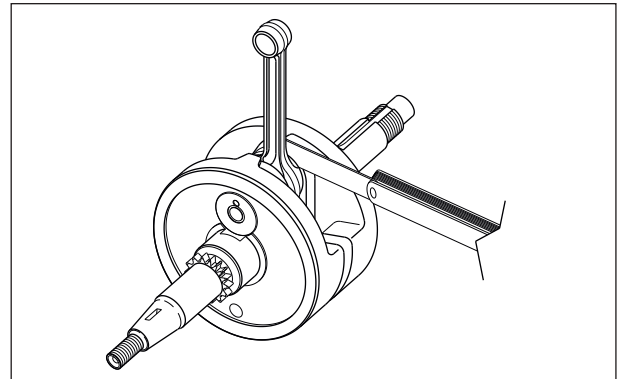

Fig. 3.172
- Measure connecting rod big end side clearance with a feeler gauge. If the clearance exceeds the service limit, replace the crankshaft assembly with a new one. (Fig. 3.172)